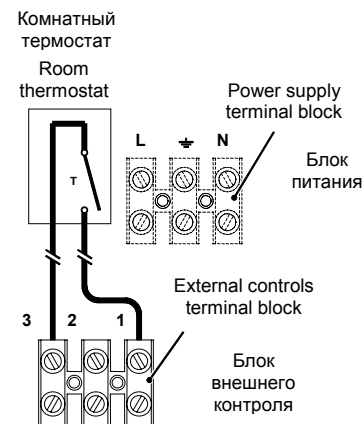

Fig. 5.9
- 7 Connect the room thermostat between terminals 1 and 3 as shown in Fig. 5.9. Do not connect live wires to terminals to which the room thermostat must be connected.
- 7 Присоедините комнатный термостат к клеммам 1 и 3, как показано на Fig. 5.9.